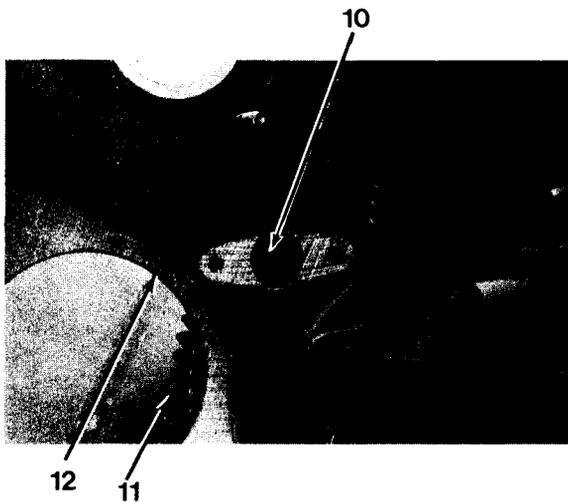

Figure 6-8
15. The timing pin hole (10) in camshaft gear (11) should be visible through timing pin assembly hole in gear housing (12, Figure 6-8).
16. If timing pin hole (10) is not visible, rotate crankshaft pulley one complete turn.
17. Timing pin hole (10) should be visible.